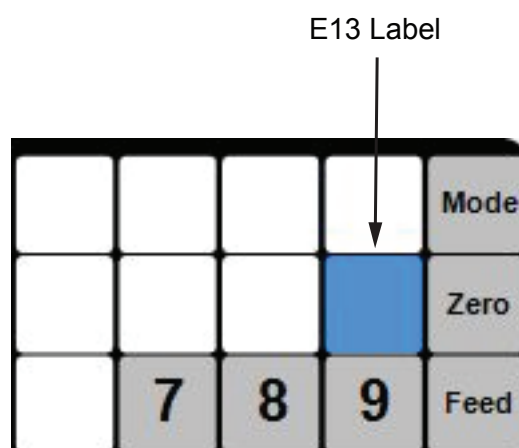

Figure 33-2
25. Double click on the applicable preset key. The Edit Preset Key - SlipNet.mdb dialog box will display. See Figures 33-2 and 34-1.